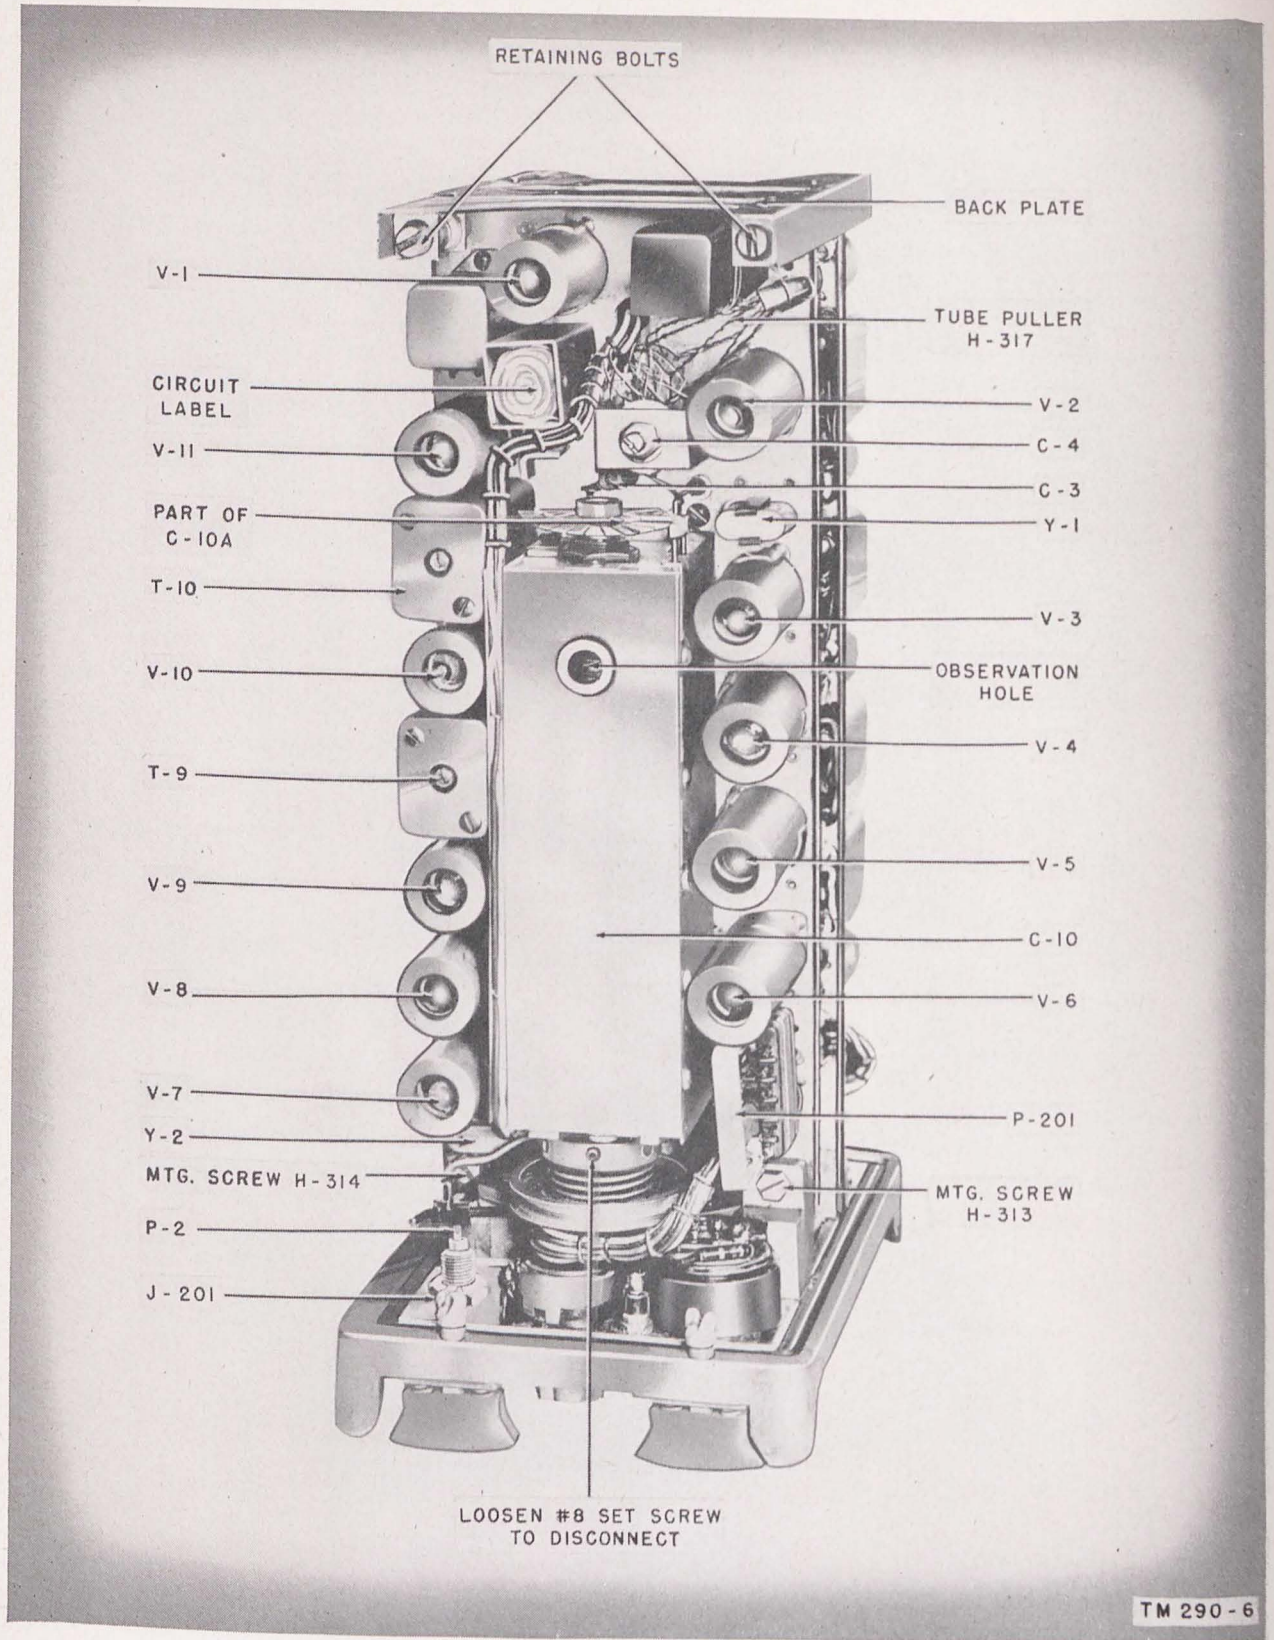

Figure 44. Receiver-Transmitter RT-70/GRC, view of r-f chassis.
a. To gain access to the tubes, remove the panel-chassis assembly from the case (par. 88). To remove any tube, first remove the tube shield and then use a tube puller. Do not rock or jiggle the tube; a tube may be easily damaged by careless handling. Tube locations are shown on figures 44 and 45.